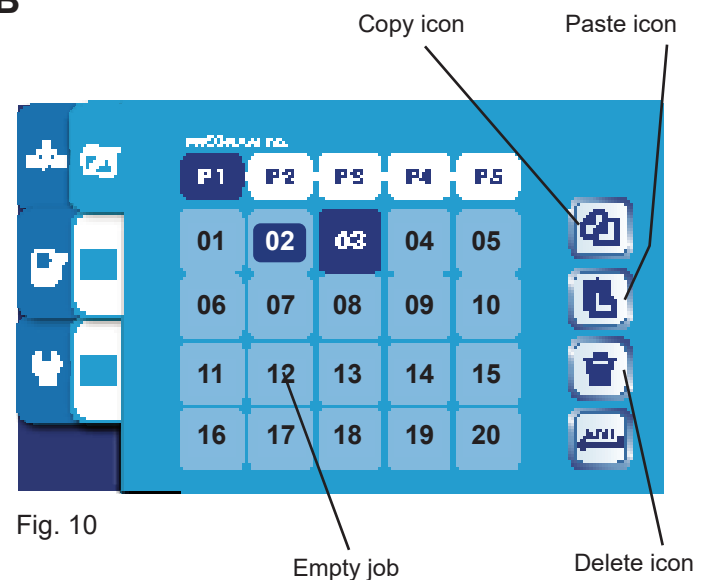

Fig. 10
3. Press the copy icon (Fig. 10).
3. Press the Delete icon (Fig. 10).